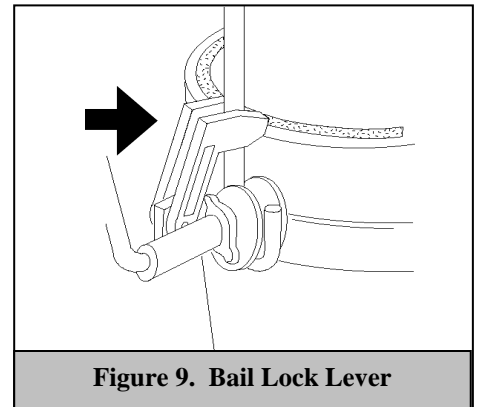

Figure 9. Bail Lock Lever
Step 9: After the ladle is emptied of molten metal, or the pouring operation is completed, place the bail lock lever in the locked or engaged position. (See Figure 9.)